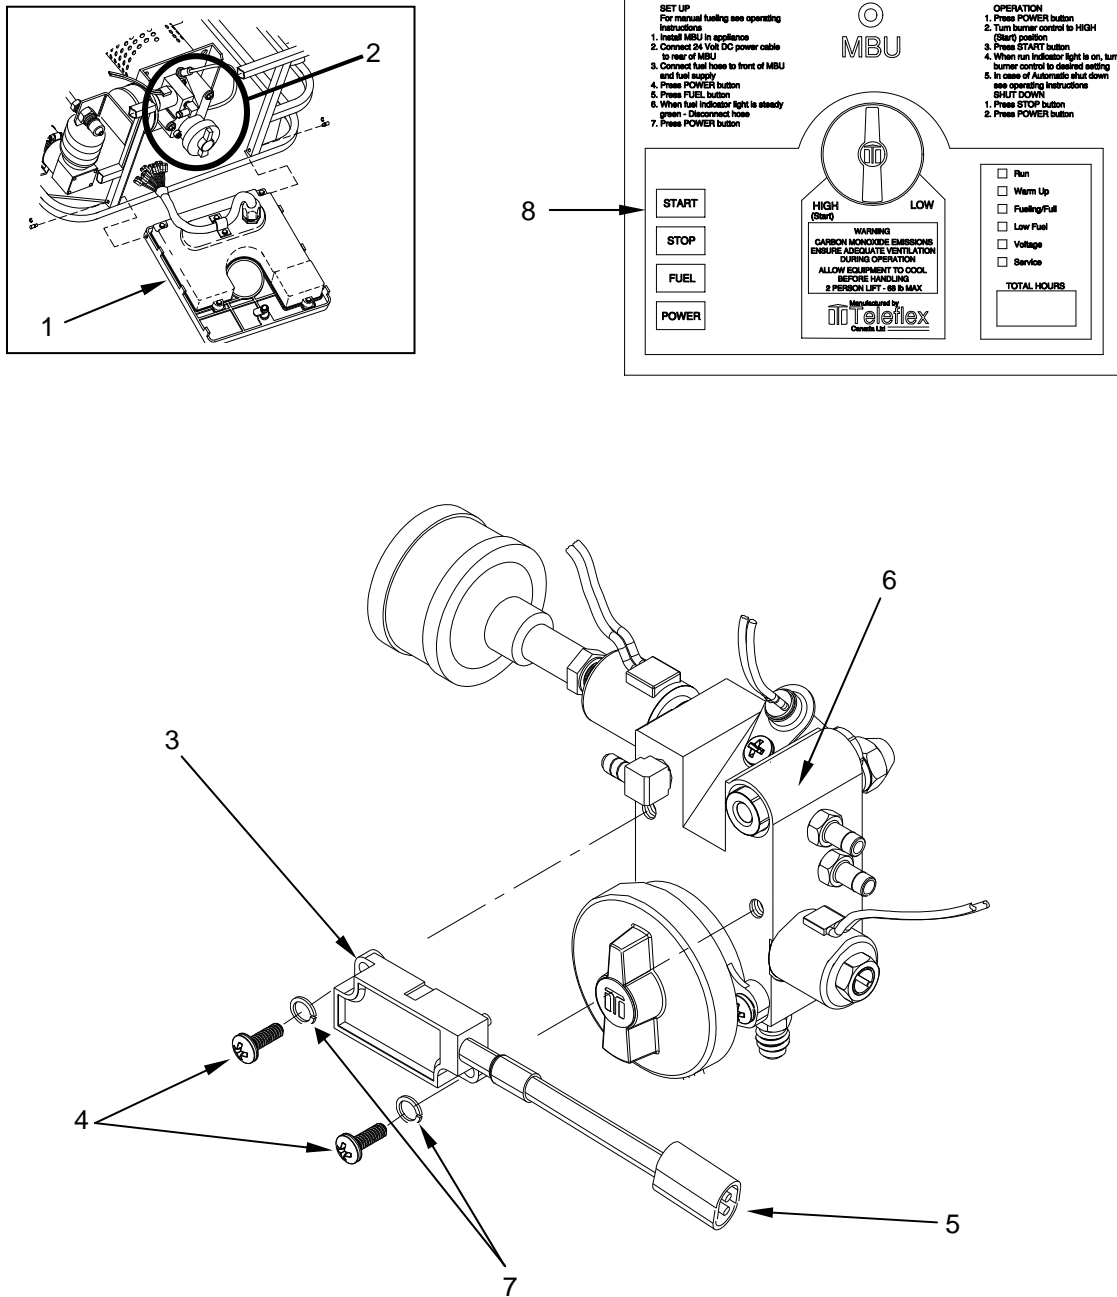

Figure 10. Replace the Flame Sensor.
2. Open the control panel (Figure 10, Item 1) to gain access to the fuel delivery block assembly (Figure 10, Item 2).
3. To replace the flame sensor (Figure 10, Item 3), remove the two screws (Figure 10, Item 4) with a suitable screwdriver.
4. Disconnect the flame sensor wiring harness (Figure 10, Item 5) by opening the clamp and separating the connector at the end of the harness.
5. Remove the flame sensor assembly (Figure 10, Item 3).
6. Install a new flame sensor assembly (Figure 10, Item 3) on the fuel delivery block (Figure 10, Item 6).
7. Ensure the lock washers (Figure 10, Item 7) are in place, and secure the two screws (Figure 10, Item 4) with a suitable screwdriver.
8. Reconnect the flame sensor wiring harness assembly connector (Figure 10, Item 5).
9. Close the control panel (Figure 10, Item 1).